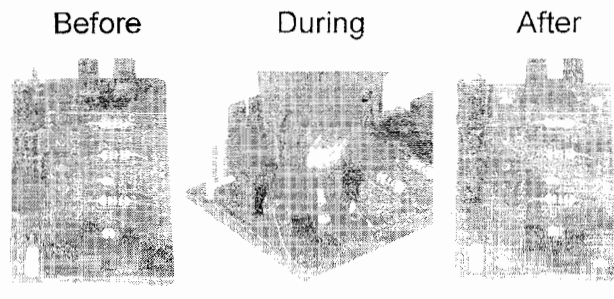

Figure 11
13. Use diagonal cutters to remove the photo interrupter spacer tabs (if present) on the Limit Switch Board. (see Figure 11)